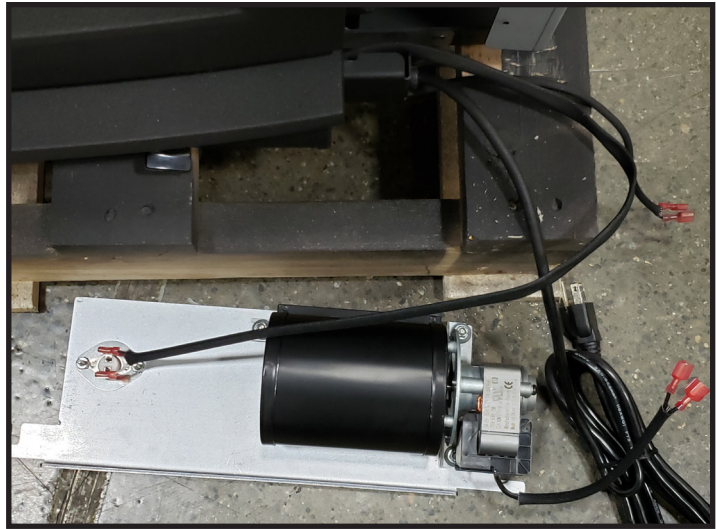

Figure 13: Thermal switch connection.jpg
5. Attach the two long leads to the Temperature Switch See (Figure 13) located on the Right Side Blower Mounting Plate. Pass the Mounting Plate with Blower through the opening on the right side of the insert. Then hook the lower slot over the lower bolt, swing the Blower/Plate into position, engaging the hook fully over the upper bolt. Tighten the bolts